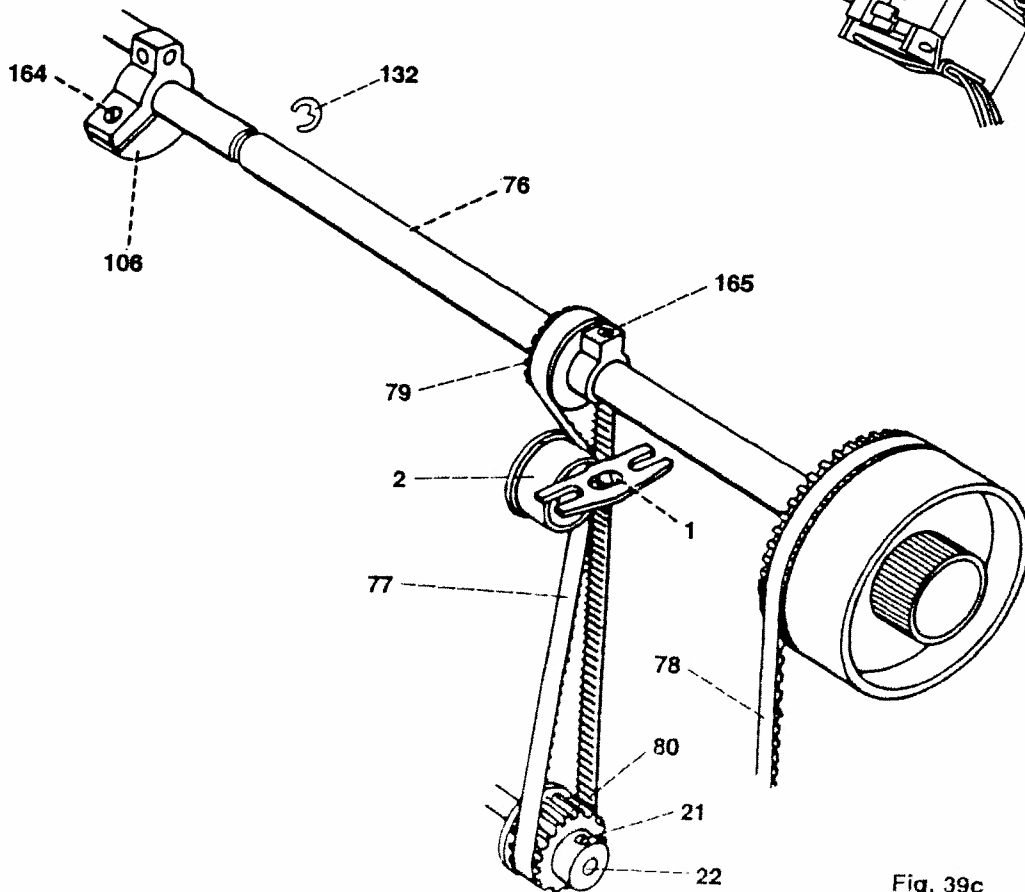

Fig. 39c
- Loosen screw 164 in arm shaft crank 106 just enough to allow the arm shaft crank to be turned on its shaft (fig. 39c).